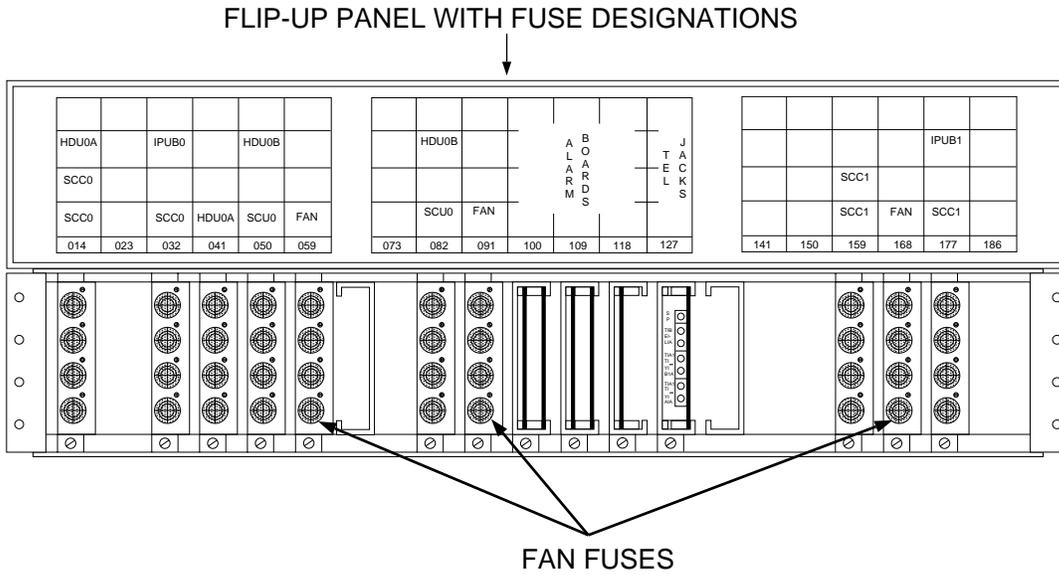

Figure 1. Location of Fan Fuses in the SCC Frame
2. Remove the three fuses associated with the fan unit. See Figure 1 if the fan system controller board is being changed in the SCC frame, or Figure 2 if the fan system controller board is being changed in the SCU frame.